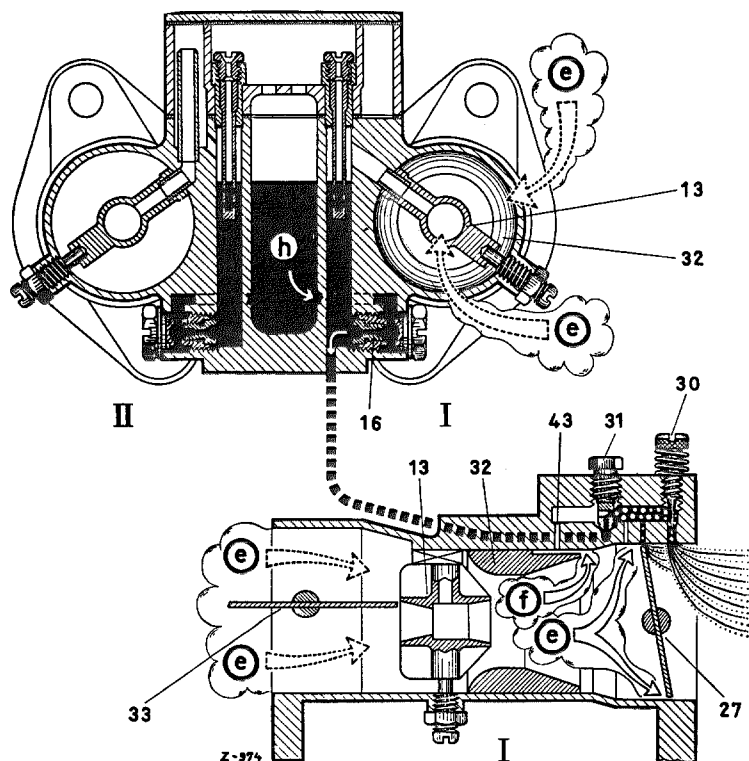

Fig. 07-0/41
The section of the idle mixture bore can be varied by the idle mixture adjustment screw (30) (Fig. 07-0/41). The final idle mixture can be leaned out by tightening the idle mixture adjustment screw and enriched by slackening it. The idle speed is adjusted with the idle adjustment screw (72) on the throttle valve lever (38) (see Job No. 01-3, Section K, and Fig. 07-0/36).
When the throttle valve is opened slightly, idle mixture emerges both through the idle mixture bore (47) and the rear by-pass bore (46). The two by-pass bores now ensure a smooth change-over from the idle to the main carburetion system (see Figs. 07-0/39 and 07-0/41).